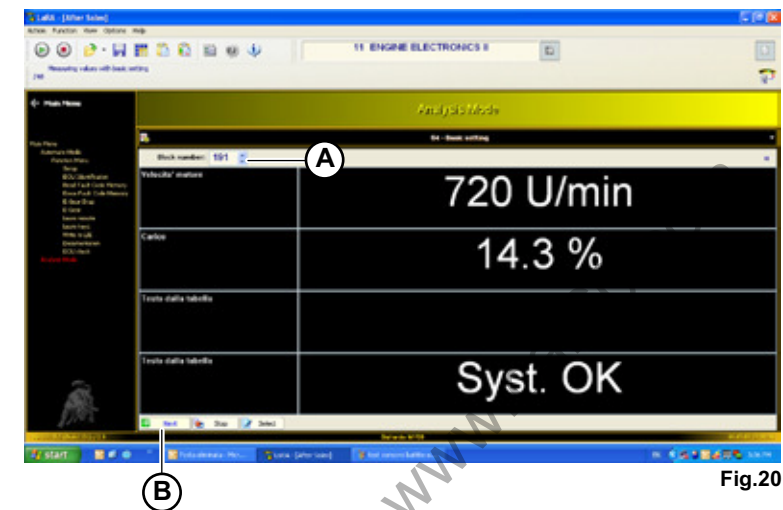

Fig.20
- Select routine 191 inside the block number (**A-Fig.20**) on the MASTER "01" control unit.
- Start the connection () and press the start push-button (**B-Fig.20**).